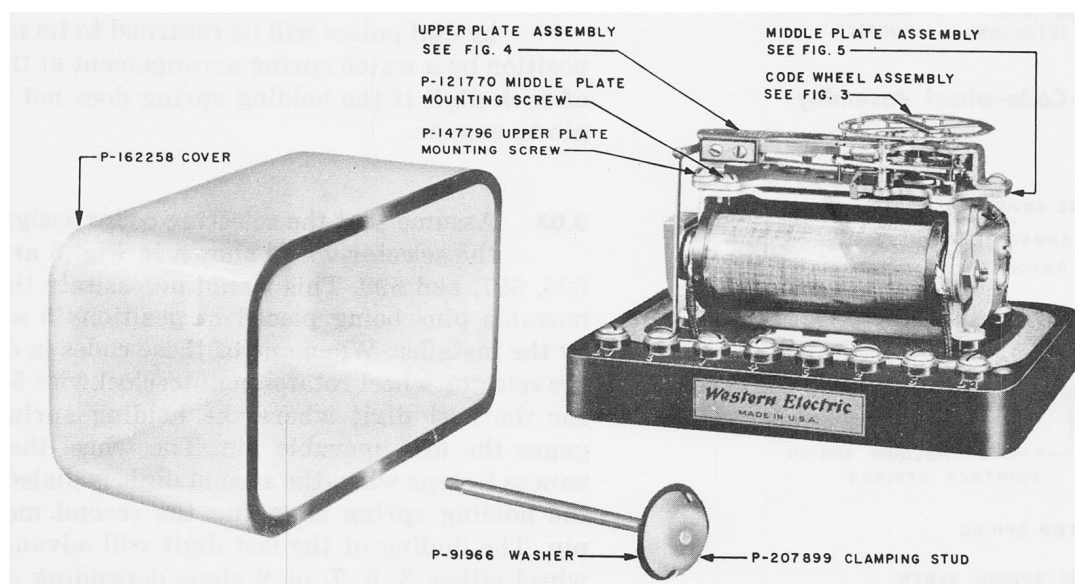
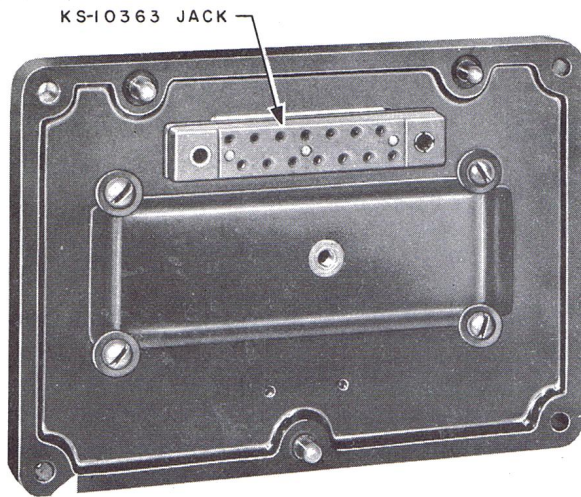

Fig. 1 — 60BA, BC, BP, BR, and D-151294 Selectors
Fig. 2 — 66A and D-175279 Selectors, Base
2.01 The 60-type selector, Fig. 1, 3, 4, and 5, is known as a step-by-step multiple contact selector. It is mounted on a bakelite base and is equipped with a glass cover. It has two polarized magnet coils located parallel to each other. An armature is arranged to pivot between the two poles on receipt of reverse current impulses through the windings. Motion of the armature in either direction is transmitted to a feed pawl in
2.03 The 66A and D-175279 selectors are the same as the selectors shown in Fig. 1, except that they have two ringing-position terminals and one designated for plug-in connection by means of a jack on the underside of the base as shown in Fig. 2.